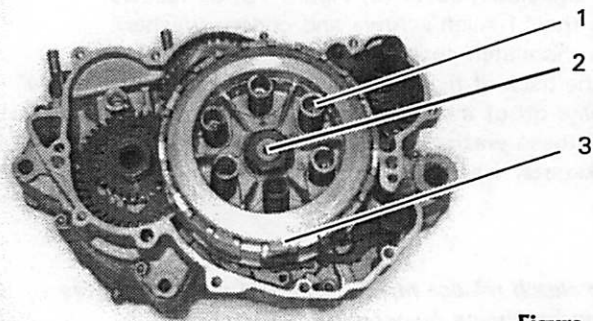

**Figure 17**
Refer to Figure 17 when servicing the clutch.
3. Remove the thrust hub (1, Figure 17) installed in the retaining plate.
6. Disassemble the clutch assembly in the order shown in Figure 17.